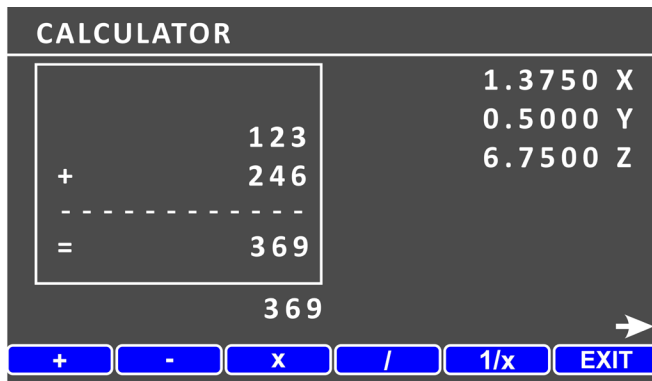

Figure 25 Calculator display: Page 1
Press the CALC key on the soft menu to activate the calculator. This brings up a blank screen, Figure 25, with a new soft menu: **+ — x / 1/x EXIT**
- If on Page 2 (Figure 26), Press the left arrow ◀ to display Page 1 (Figure 25)